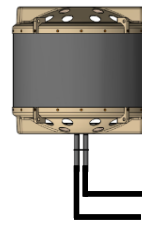

Fig. 5
- When installing the WET in a short distance to the bottom of the water, the use of 90 ° electrofusion elbow fittings is recommend, to avoid restoring forces due to the low bending radius of the connecting cables (Fig. 5).